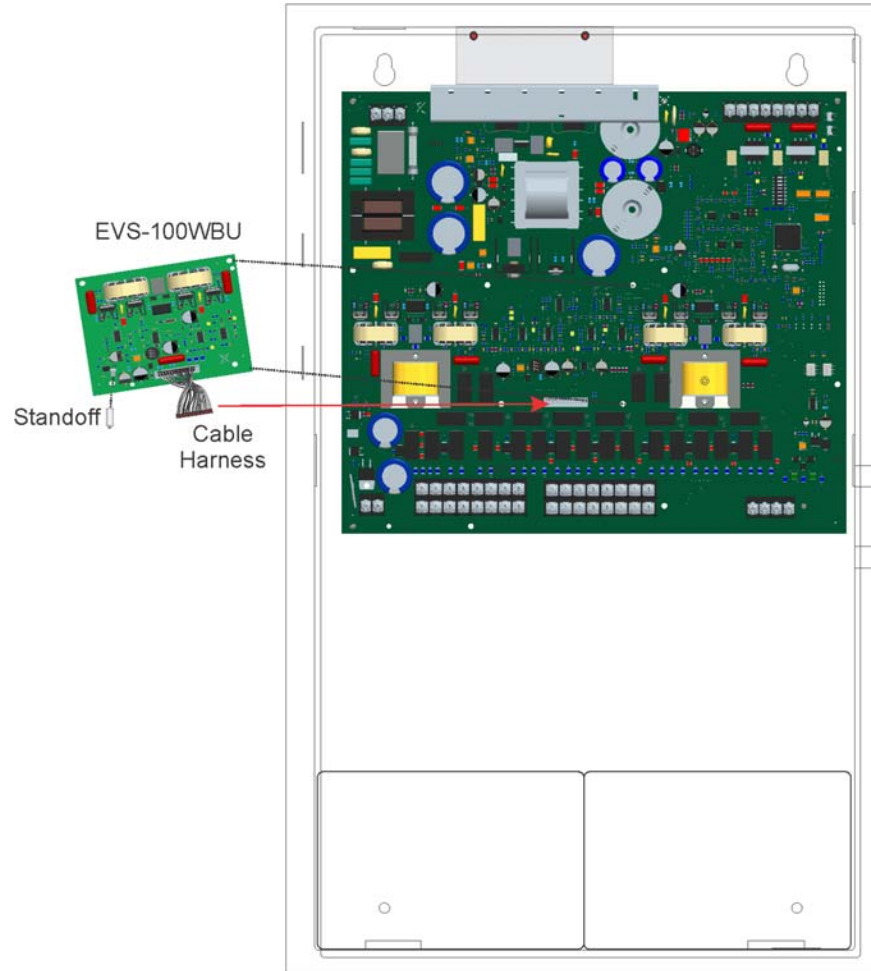

Figure 4-46 Mounting the EVS-100WBU
2. Connect the backup amplifier cable harness (P/N 50116775-001) from the connector labeled “Backup Amplifier” on the EVS-100W to the connector on the EVS-100WBU as shown in Figure 4-46.
3. Using the 4 supplied screws, mount the EVS-100WBU to the standoff's as shown in Figure 4-46.